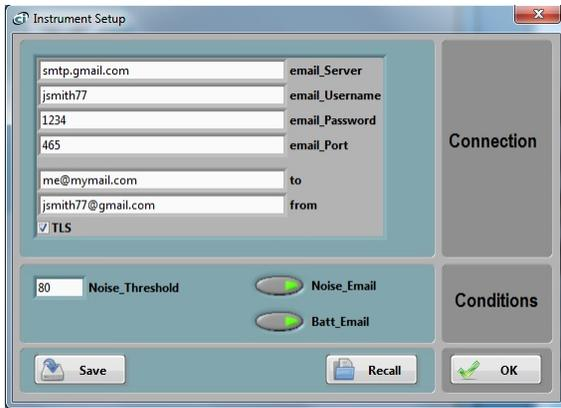

Figure 11 Email Setup
- **One Recipient** The recipient line (*to* line in Figure 11).
The application by default shows the settings for a fictitious secure *gmail* account (see Figure 11). These settings of course need to be changed to reflect the user's own email account settings.